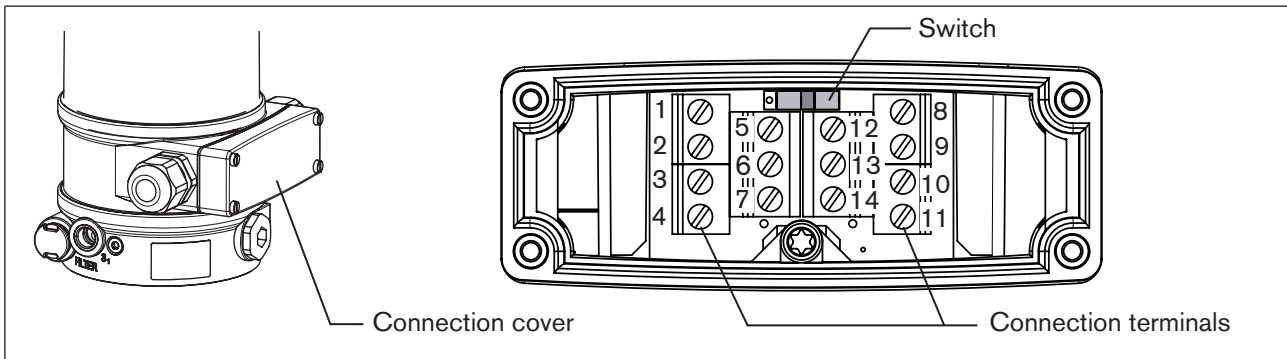

Figure 32: Cable gland connection
** The switch is situated under the connection cover (see "Figure 32: Cable gland connection")